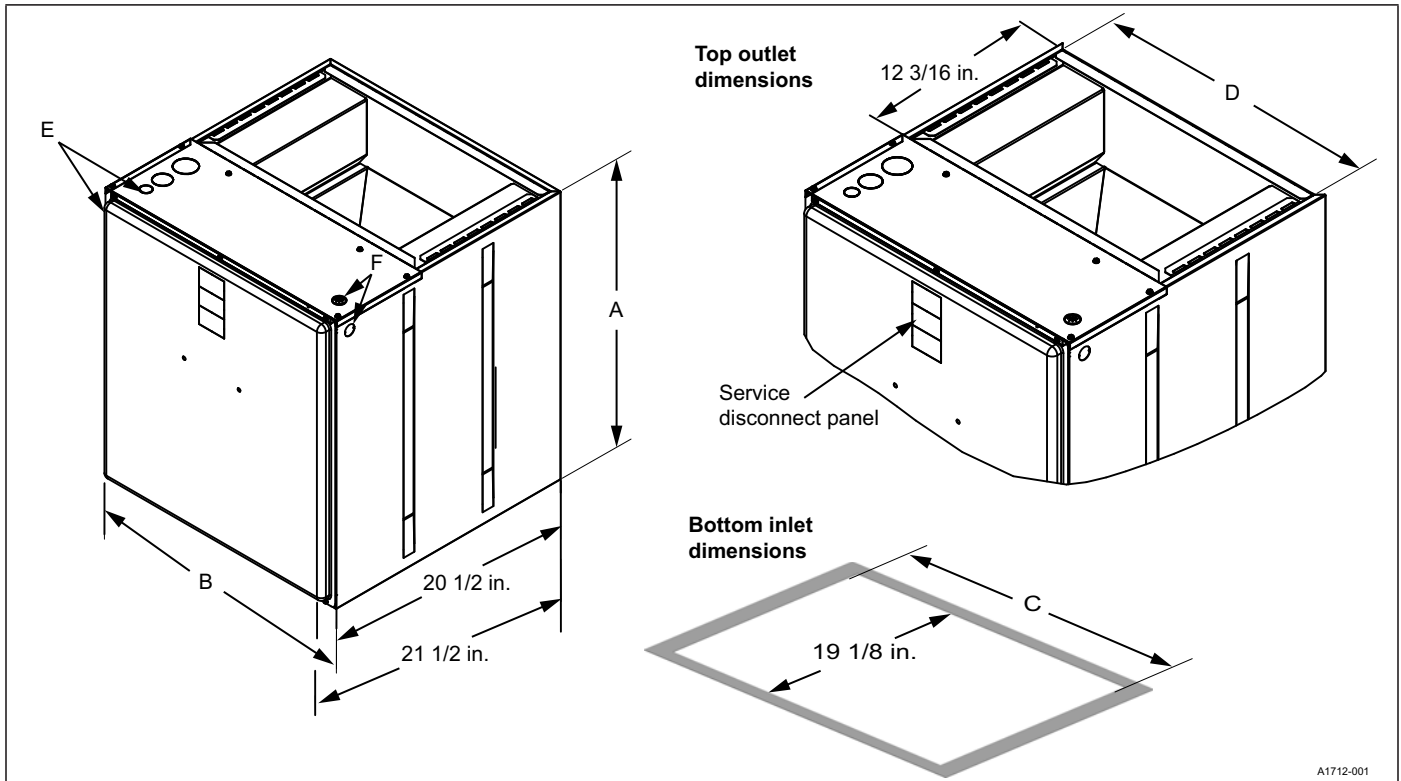

Figure 2: Dimensions and duct connection dimensions
- The unit rating plate displays the air handler model number. The unit dimensions for the supply air plenum are provided in **Figure 2** and **Table 1**. Always install the plenum according to the instructions.